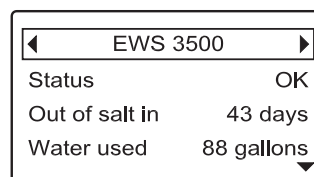

FIG. 123
1. Press the remote's LEFT (◀) or RIGHT (▶) buttons to manually advance to the status screen for the device to delete. The device name will show in the header. (See Figure 123).